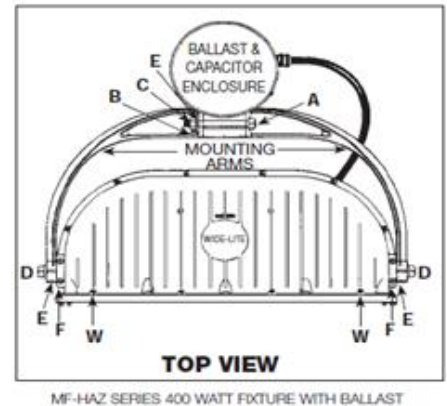

FIGURE 1
STEP 1 – Attach fixture mounting arms to ballast/mastfitter assembly with the 4-1/2" long machine bolt, 1/2" flat washer, 1/2" split-lock washer, and 1/2-13 hex head nut (provided in fixture hardware kit). Arms should be set in their proper aiming position. Tighten the 1/2-13 hex nut slightly (See **FIGURE 1**).
STEP 2 – Position the fixture head between the two mounting arms and attach with the two 1-1/2" long machine bolts and 1/2" split-lock washers (provided in fixture hardware kit). Tighten the bolts slightly (See **FIGURE 1**).